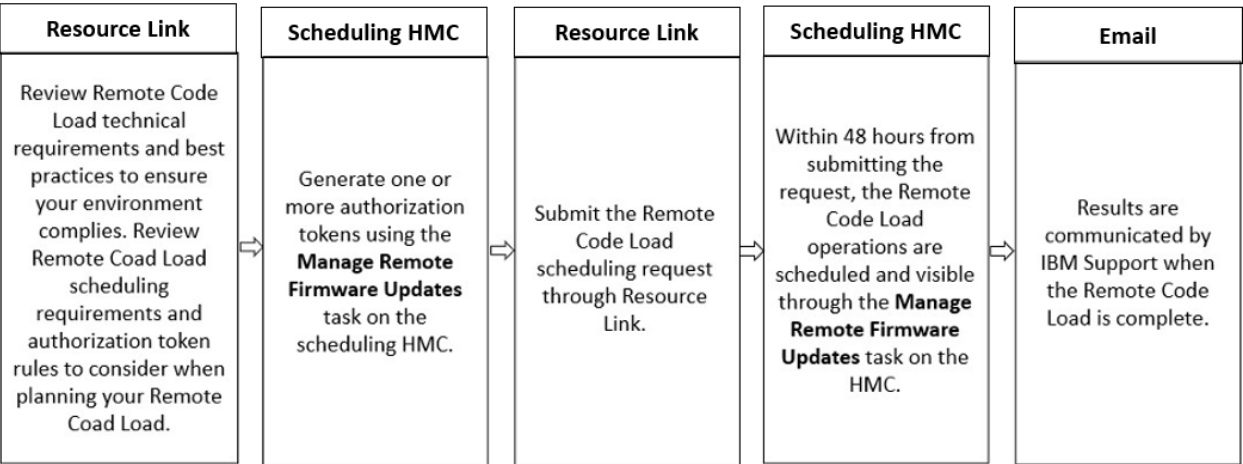

Figure 1. Remote Code Load firmware update process flow
The IBM z16™ and IBM z15™ (z15™) supports the Remote Code Load for IBM Z® Firmware (Remote Code Load) feature. This feature allows you to remotely schedule and install the most recent Remote Code Load firmware updates on your Hardware Management Console (HMC) or Support Element (SE). See Figure 1 on page 9 for the process flow of a typical, successful Remote Code Load firmware update.